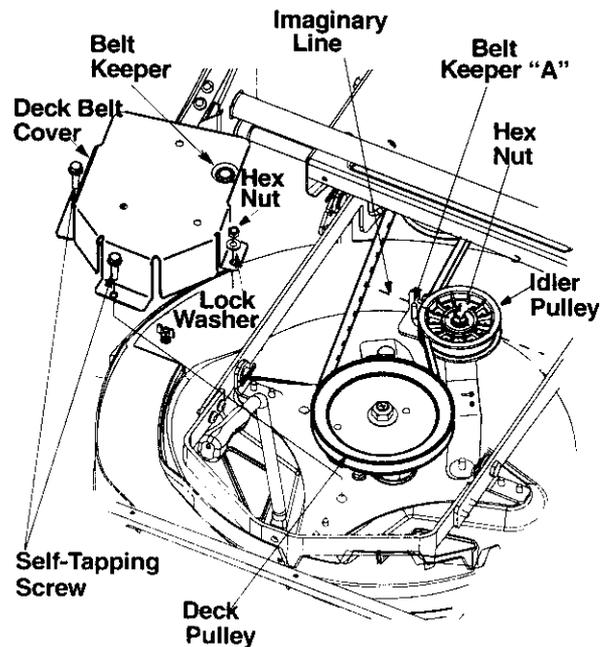

Figure 13
- Using a 1/2" socket wrench, remove two self-tapping screws, lock washer and hex nut that hold the deck belt cover to the deck. See Figure 13. For
- Using a 9/16" wrench, loosen the hex nut on the idler pulley. See Figure 13.
- Place the new belt around the deck pulley and the engine pulley making sure that the belt is routed inside the belt keepers. There are two belt keepers under the grass catcher, one on the idler and the other under the deck belt cover. See Figure 13.
- Make sure to align the belt keeper in line with the frame. See Figure 13.
NOTE: An imaginary line between the belt keeper and idler pulley should be parallel to frame. See Figure 13.